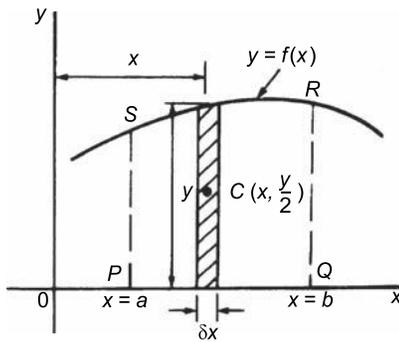

Figure 8.2
- (i) Figure 8.2 shows an area $PQRS$ bounded by the curve $y = f(x)$, the x -axis and ordinates $x = a$ and $x = b$. Let this area be divided into a large number of strips, each of width δx . A typical strip is shown shaded drawn at point (x, y) on $f(x)$. The area of the strip is approximately rectangular and is given by $y\delta x$. The centroid, C , has coordinates $\left(x, \frac{y}{2}\right)$